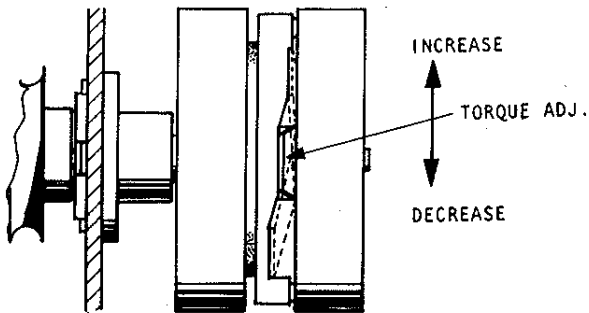

Fig. 6.1
- (2) Take-up Torque should be  $40 \pm 10g\text{-cm}$ .
- (3) To adjust torque, move take-up spring as shown in Fig. 6.1.
- (4) If torque is not sufficient during play mode, bend the take-up spring equally or replace the take-up spring.